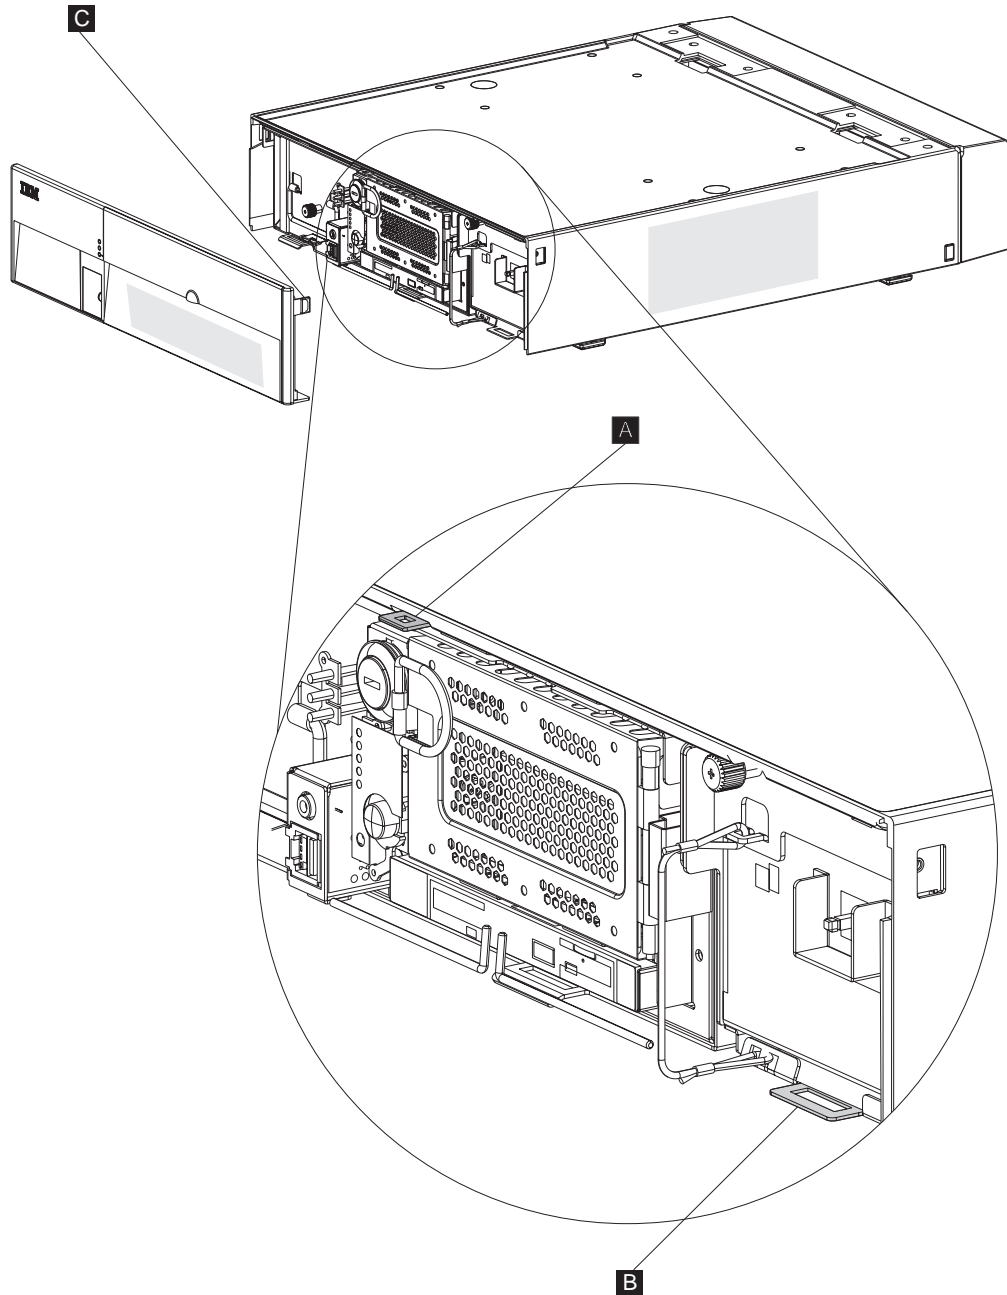

Figure 20. Placement of bezel
1. Locate the hooks on the bottom of the front bezel and align these hooks with the slots on the frame ( **B** in Figure 20).
2. Push inward on the side tabs ( **C** in Figure 20) and insert one end and then the other. Push gently on the bezel to close it, ensuring that the center tab ( **A** ) locks into place.